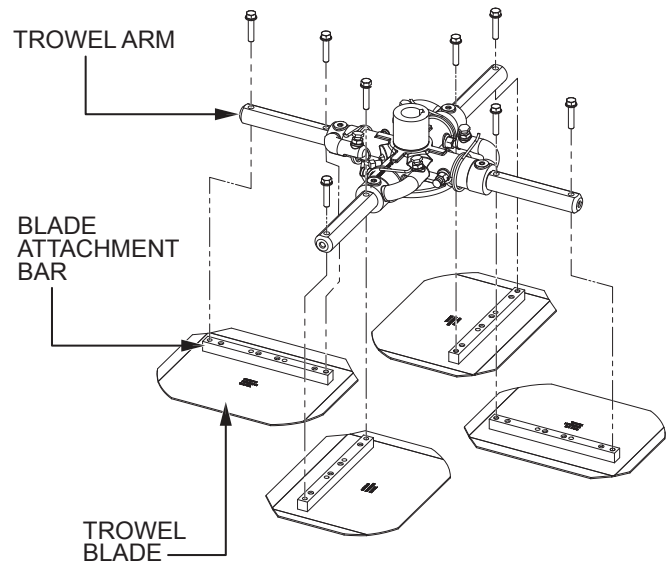

Figure 62. Blade Removal
2. Remove the bolts and lock washers securing the blades to the trowel arms, then remove the blades (Figure 62).